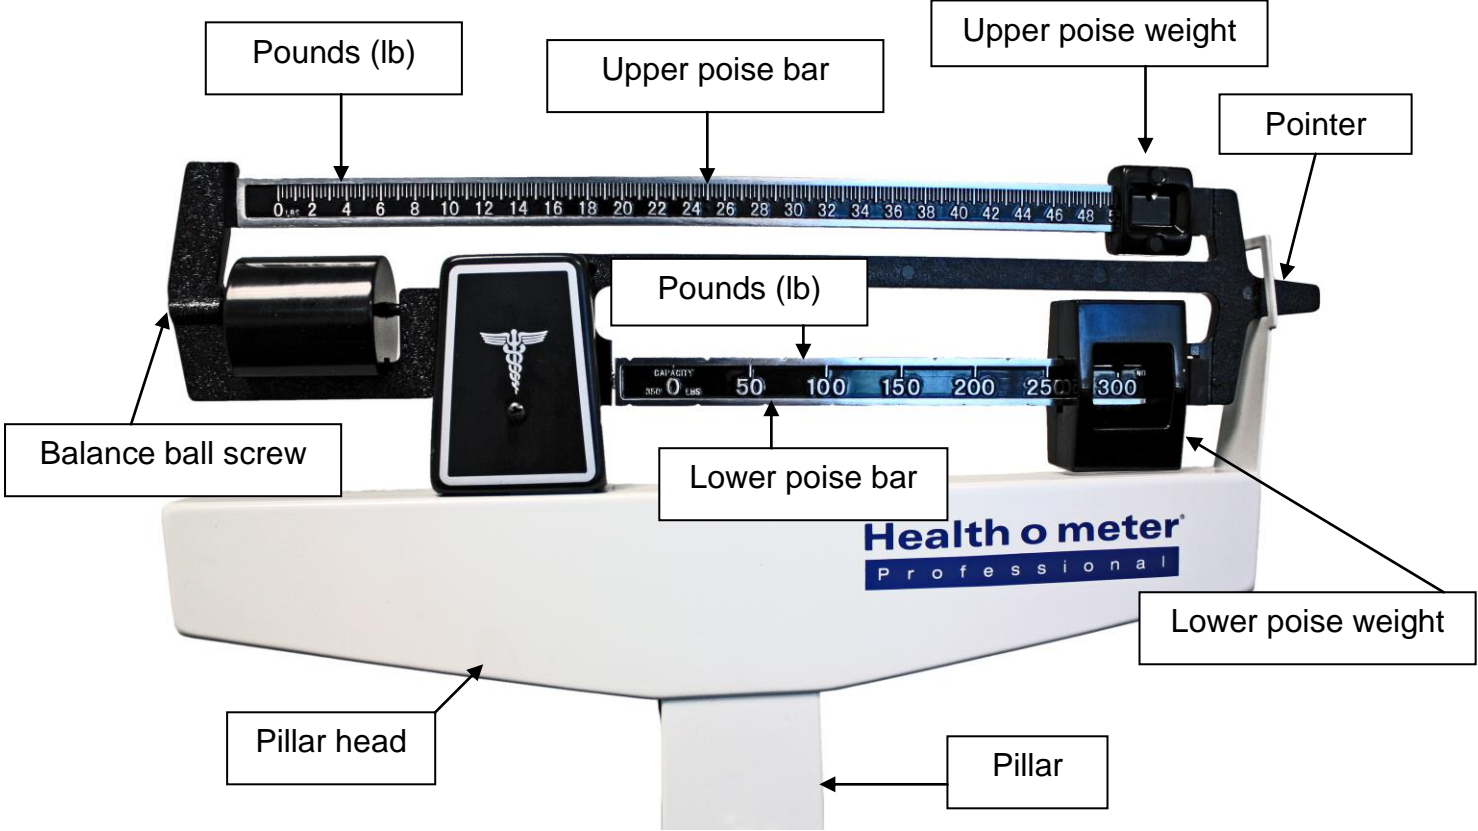
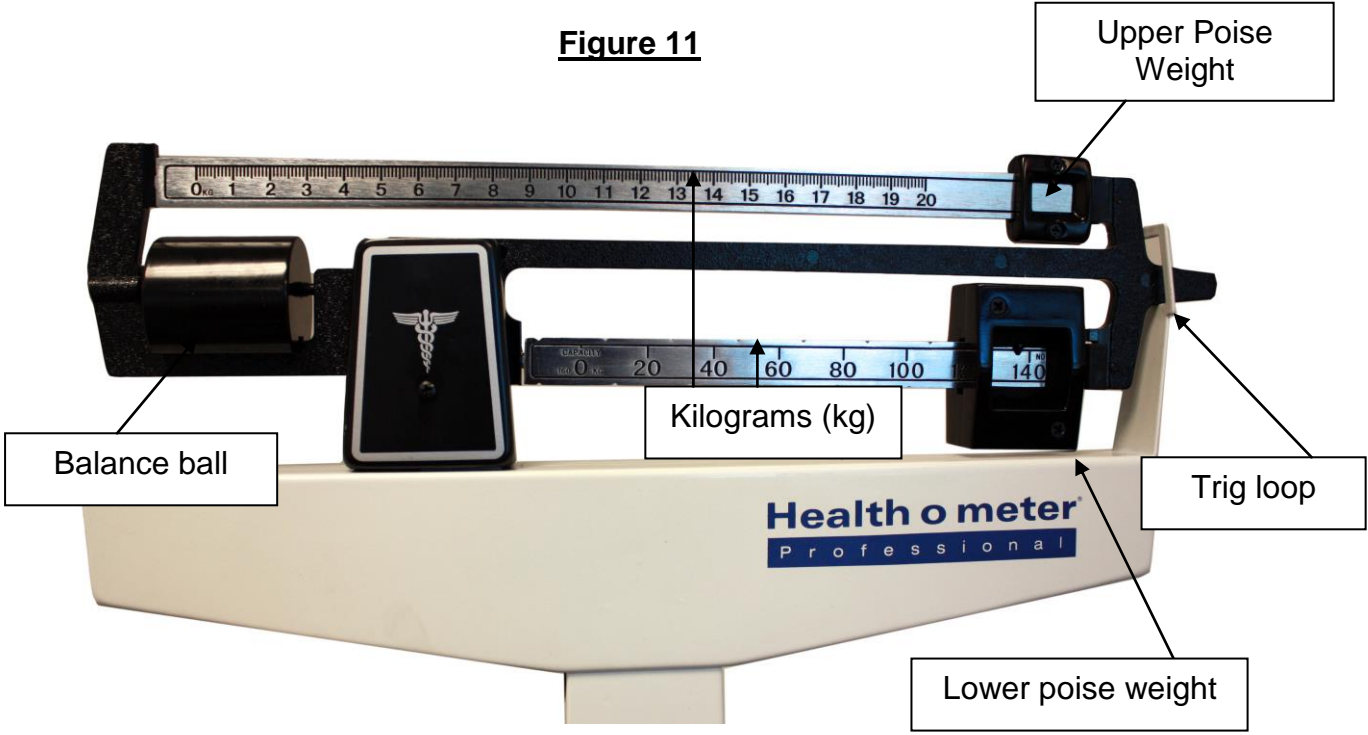

Figure 11
Figure 12
Weighing Instructions (see Figures 11–14 on pages 14 & 15)
6. For easy identification, pounds (lb) have silver graduations on a black background, located on one side of the poise bar (see Figure 11 on page 14); kilograms (kg) have black graduations on a silver background, located on the other side of the poise bar.(see Figure 12 on page 14)